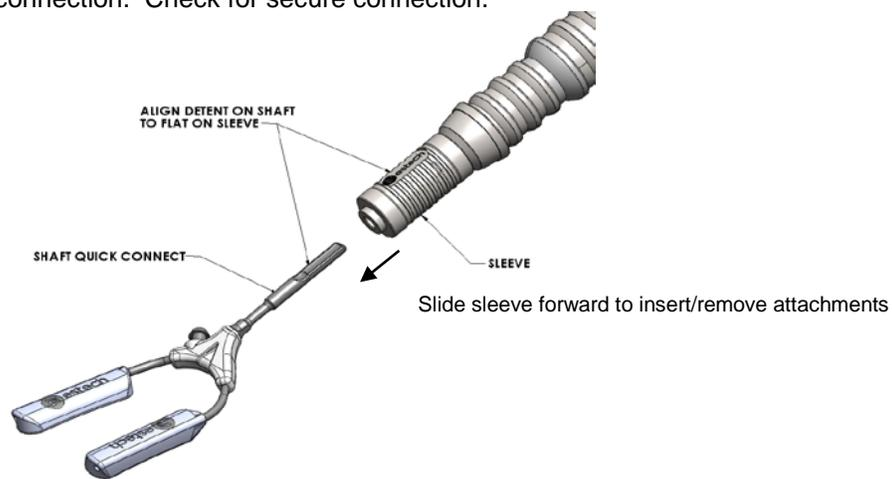

Figure 2 – Hercules 3 Quick Connect (401-161)
1. Attach an Estech accessory device to the distal connection mechanism. For connection of a standard Estech shaft quick connect attachment, slide the sleeve forward and insert the shaft into the connection with the detent on the shaft facing the flat on the sleeve (see Figure 2). Return sleeve to original position to lock accessory device into connection. Check for secure connection.